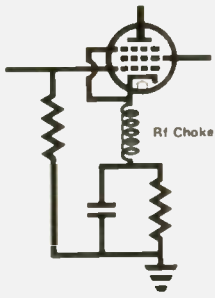

Fig. 14.
1. Interference in tube-type equipment can be avoided by connecting an rf choke (ranging in value from 2 millihenrys to 5 millihenrys) in the upper end of the cathode circuit, as shown in Fig. 14.